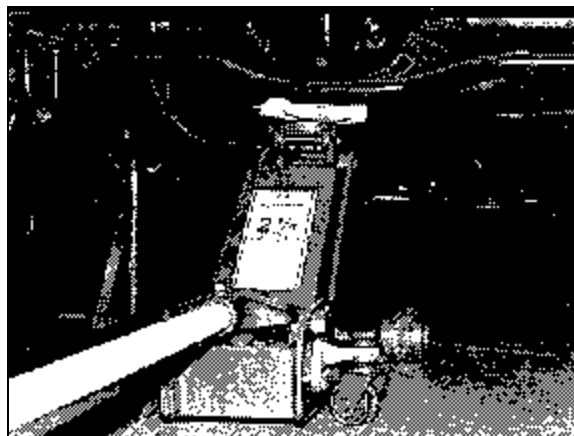

Fig. 2
3. Place a floor jack under the differential and lift up slightly to remove tension from the trailing arm bolts - make sure not to lift the car off the jackstands (**Figure 2**).